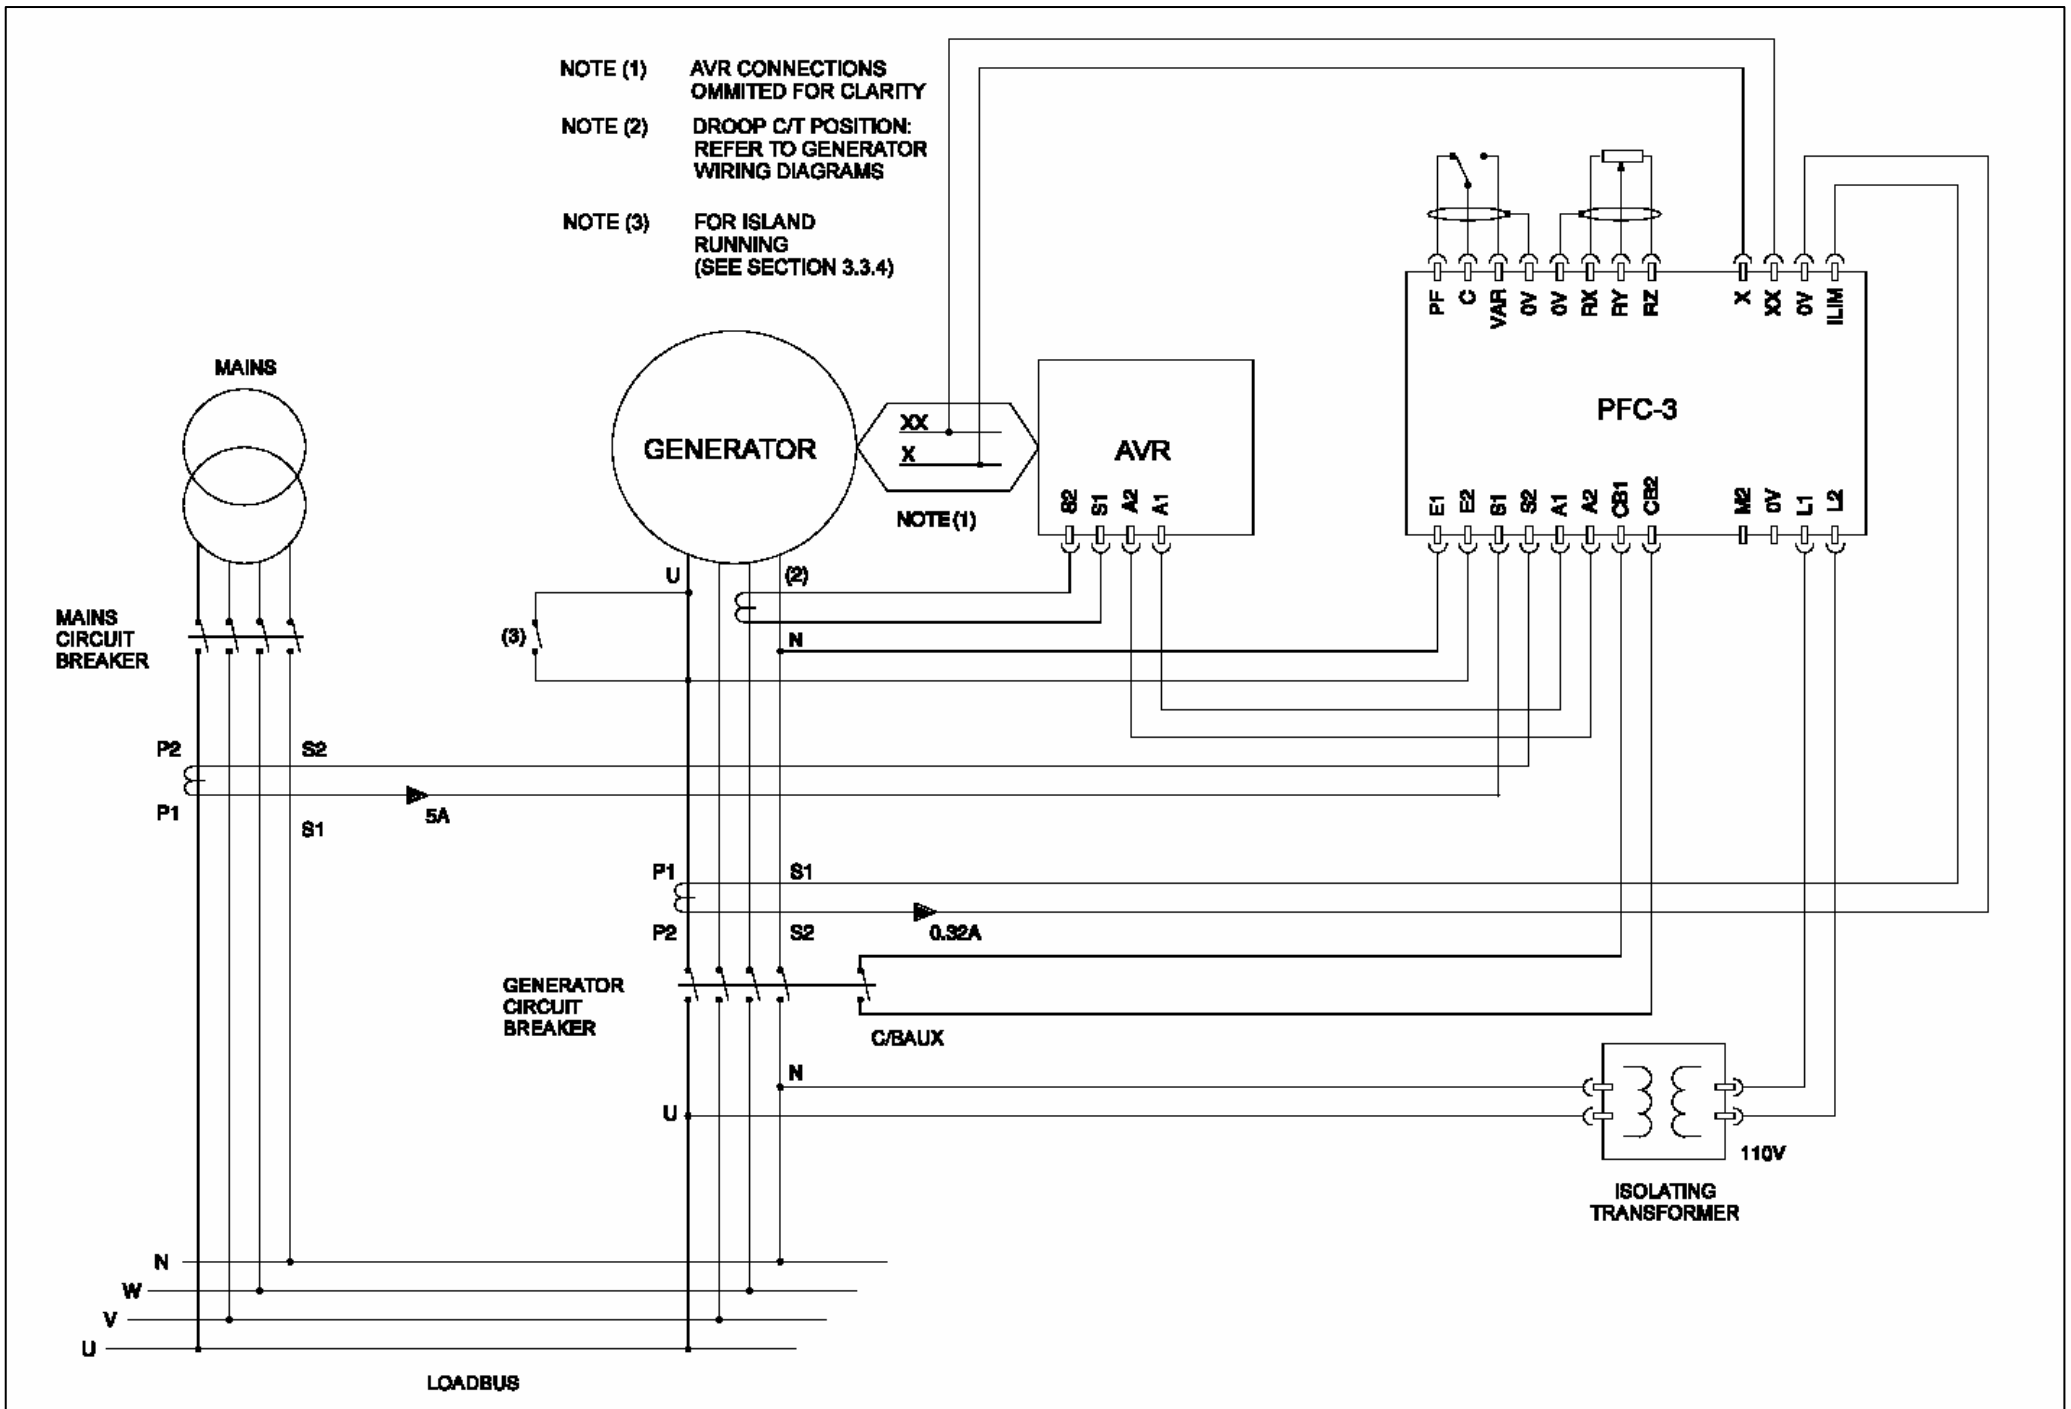

Fig. 9 Power Factor Correction of the Incoming Mains Supply
3.5 PFC3 used for Power Factor Correction - Fig 9
The current limiting transformer(0.32A sec) MUST be fitted in the generator output (as shown in Fig 9) and must be correctly phased.